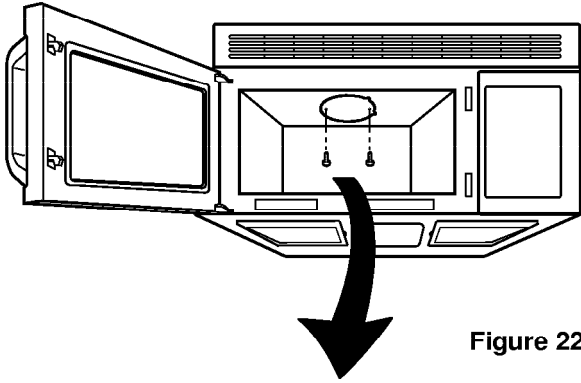

Figure 22
F. REMOVING STIRRER FAN DISK (Figures 22 and 23)
- (1) Remove 2 rivet ASS'Y securing it to the oven upper plate by using knife blade.
- (2) Pull out cover ASS'Y.
- (3) Remove the stirrer fan disk.